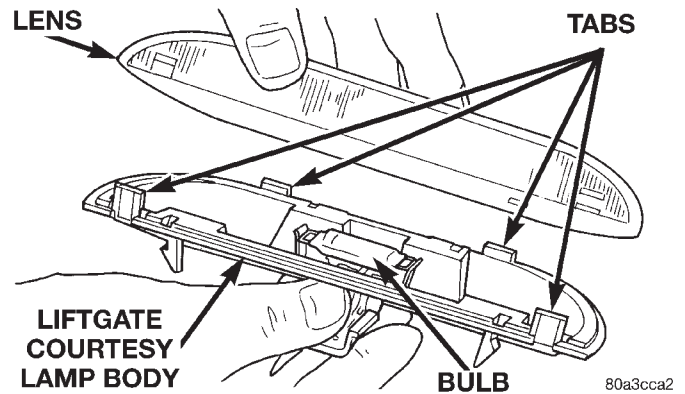

Fig. 21 Liftgate Courtesy Lamp Bulb
- (1) Remove liftgate courtesy lamp.
- (2) Insert a small, flat bladed pry tool between courtesy lamp lens and courtesy lamp body.
- (3) Carefully depress tabs holding lens to courtesy lamp body (Fig. 21).
- (4) Remove lamp lens from lamp body.
- (5) Carefully press lamp bulb contact toward opposite contact.
- (6) Remove bulb from lamp body.